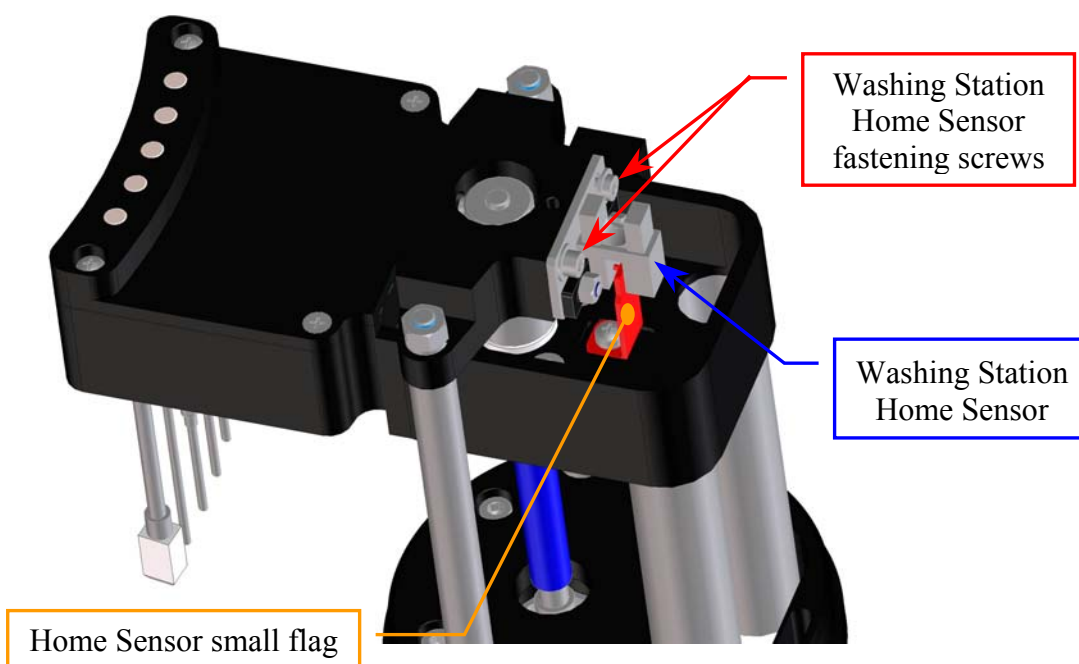
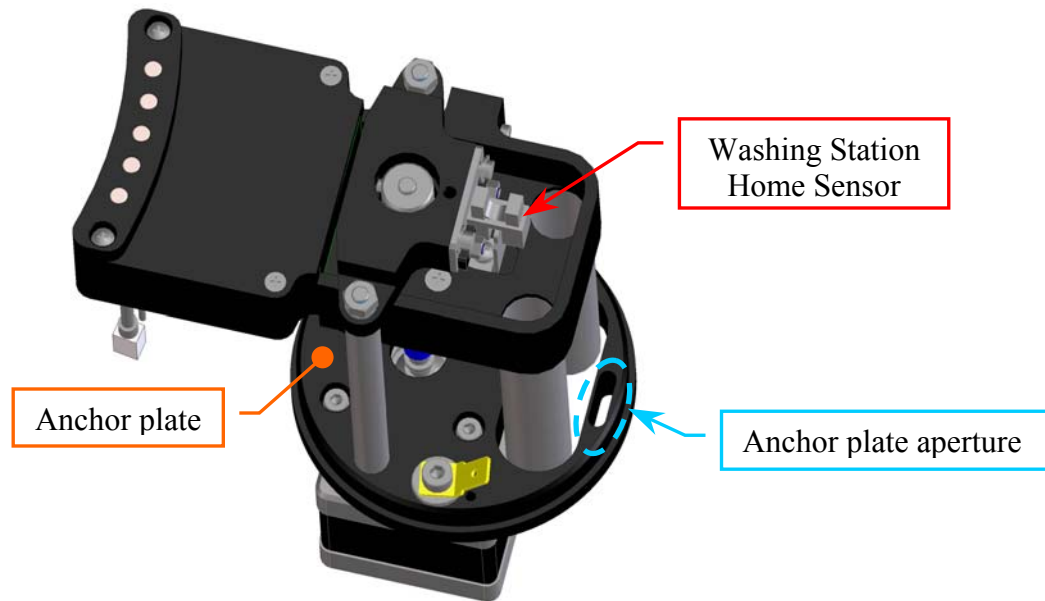

Fig. 128 – The two fastening screws of the Washing Station Home Sensor
Fig. 129 – Anchor plate aperture of the Washing Station Assy
6. Unscrew the two fastening screws of the Washing Station Home Sensor (**Fig. 128**) and take out the sensor from its housing on the Washing Station Assy, pushing the cable and the connector of the sensor through the anchor plate aperture (**Fig. 129**).
9. Position the Washing Station Home Sensor on its place in order to obtain that the home sensor small flag is centered with respect to the internal sides of the home sensor - as showed in the **Fig. 128** - .
10. Screw the two fastening screws of the Washing Station Home Sensor (**Fig. 128**).
11. Push the Washing Station Home Sensor connector through the anchor plate aperture (**Fig. 129**).